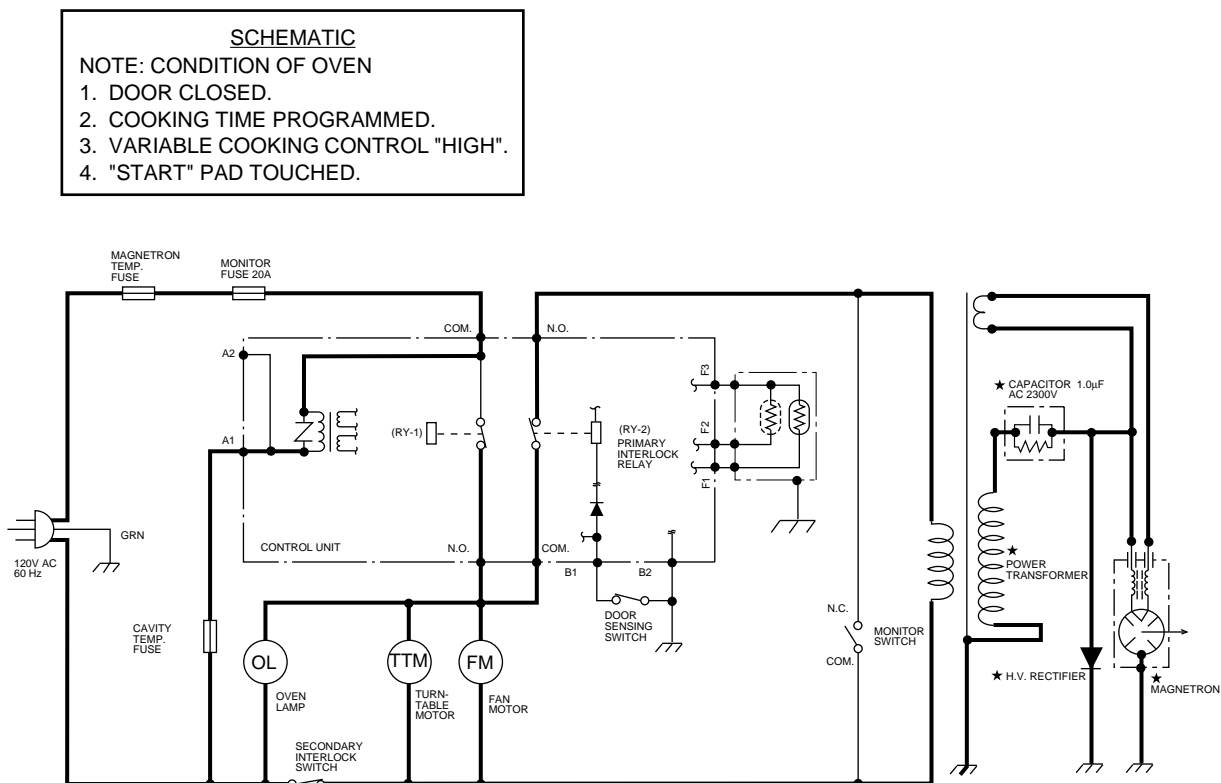

Figure O-2. Oven Schematic-Cooking Condition
1. The contacts of relays are closed and components connected to the relays are turned on as follows. (For details, refer to Figure O-2)